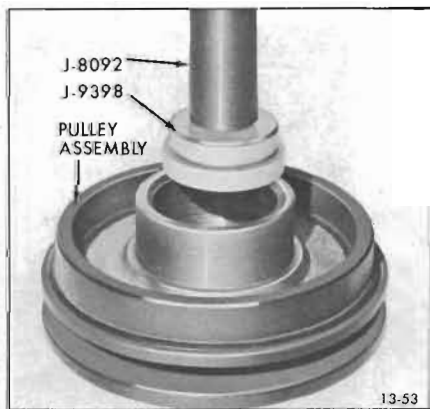

Figure 13-53—Removing Bearing from Pulley Assembly
5. Drive out bearing (see Figure 13-53) by use of Puller Pilot (J-9398) and Handle (J-8092).